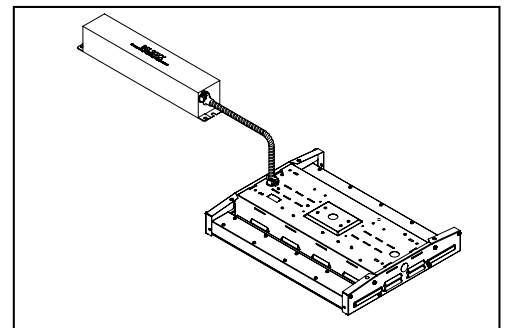

Figure 1.
2. Suspend luminaire a minimum of 18" [457mm] below the ceiling and position the battery pack either horizontally or vertically to the building structure or some other mounting arrangement. (Figure 1.)